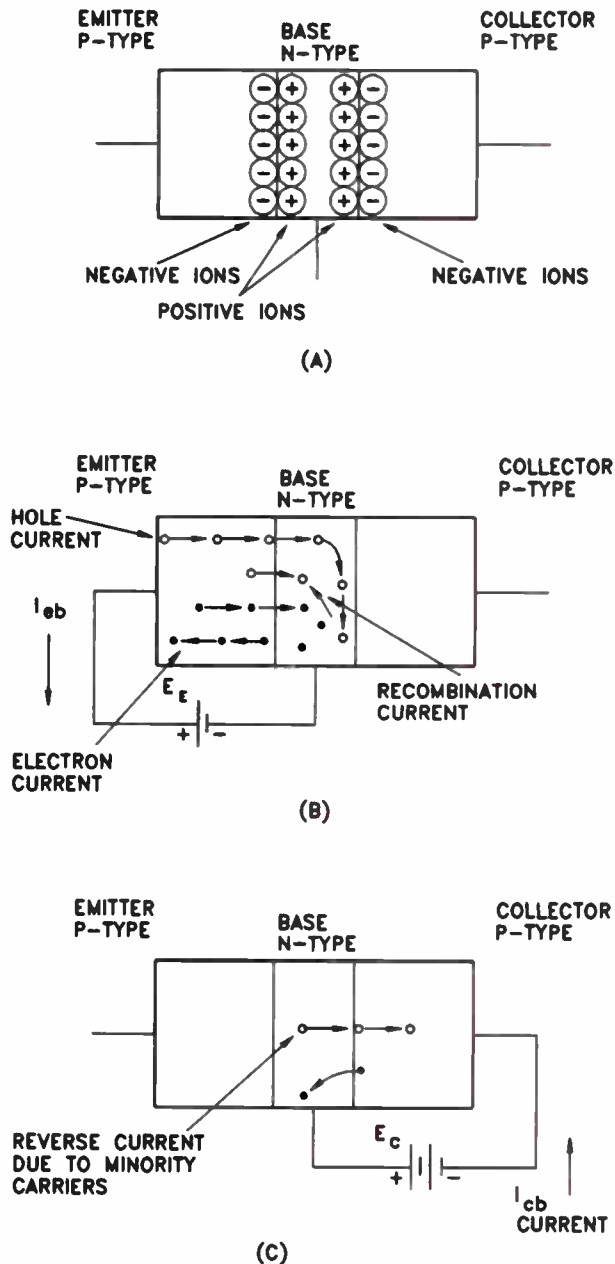

Figure 4. (A) The formation of ions at the junction of a pnp transistor. (B) The current flow in the emitter-base circuit, and (C) in the collector-base.
At the junctions, holes from the p-type emitter section and the p-type collector section diffuse across the junctions into the base. The holes diffusing into the base place a positive charge on the atoms near the junctions. At the same time, electrons from the n-type base diffuse across the junctions into both the emitter and collector. These electrons diffusing from the base into the emitter, on one side of the base, and the collector, on the other side of the base, place a negative charge on the atoms on the emitter and collector sides of the junctions. These charged atoms, or *ions*, will repel the electrons and holes from the region of the junction to prevent any further diffusion across the junctions. Thus we will have two depletion layers formed, as shown in Fig.4(A) on the next page.
Before going any further, you should compare Fig.2(A), which shows the depletion areas in an npn transistor, with Fig.4(A), which shows the depletion areas in a pnp transistor. Notice that the depletion areas have opposite polarities. In the npn transistor, at the emitter-base junction, there are positive ions on the emitter side of the junction and negative ions on the base side of the junction. With the pnp transistor, there are exactly the opposite: the negative ions are on the emitter side of the junction and the positive ions are on the base side of the junction.
Getting back to the pnp transistor, when a forward bias is placed between the emitter and the base, an arrangement is formed like that shown in Fig.4(B). Here the positive voltage applied to the end of the p-type emitter repels holes toward the junction. These holes tend to neutralize the negatively charged ions on the emitter side of the junction. The holes are formed at the end of the p-type section by electrons attracted out by the positive potential applied to this section. At the same time, the positive potential applied to the emitter attracts the electrons that have given the ions on the p-side of the junction their negative charge. This also weakens the negative charge on the emitter side of the junction.
Now consider the base-collector junction. This junction is reverse-biased as shown in Fig.4(C). Here we have a depletion layer at the junction. We also have minority carriers being formed in the depletion layer. Holes that are formed in the base region cross the junction, and, instead of neutralizing a negatively charged atom near the junction on the collector, are attracted by the negative potential applied to the collector. Similarly, electrons formed in the depletion layer of the p-type collector cross the junction and are attracted by the positive potential applied to the base. Thus, we have a current flow due to minority carriers.